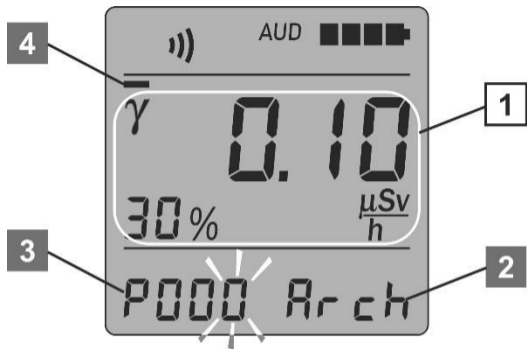

Figure 10 – LCD of the dosimeter
The “Arch” symbols (1) on the LCD of the dosimeter are an indication of the submode of measurement result saving (Figure 10). In this submode the LCD displays the measurement result (1) and the measurement object number (3) that will be saved in the nonvolatile memory. The nonvolatile memory status is displayed on the instantaneous value indicator (4). If the nonvolatile memory contains no data, only the first segment is highlighted on the indicator. If the memory is full, all segments are highlighted.